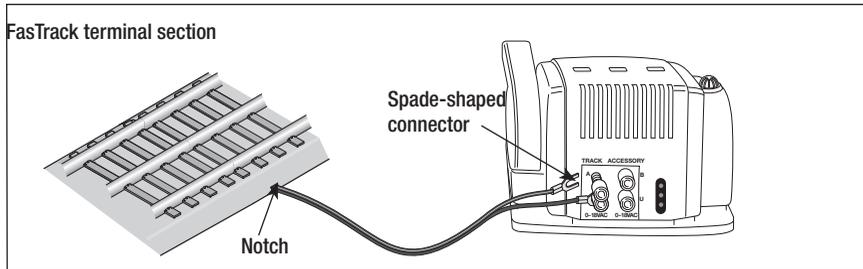

Figure 5. Transformer connections
If you are using the Lionel FasTrack track system, you will find that the terminal section easily connects to the transformer's TRACK posts. Two wires are attached to the underside of the FasTrack terminal section (available separately, 6-12016). Attach the spade-shaped connectors at the ends of these wires to the GW-180 Transformer. Be sure that the connections are secure. Follow these steps and refer to Figure 5.
2. **Feed the wires through the notch in the FasTrack terminal section.** Refer to Figure 5.